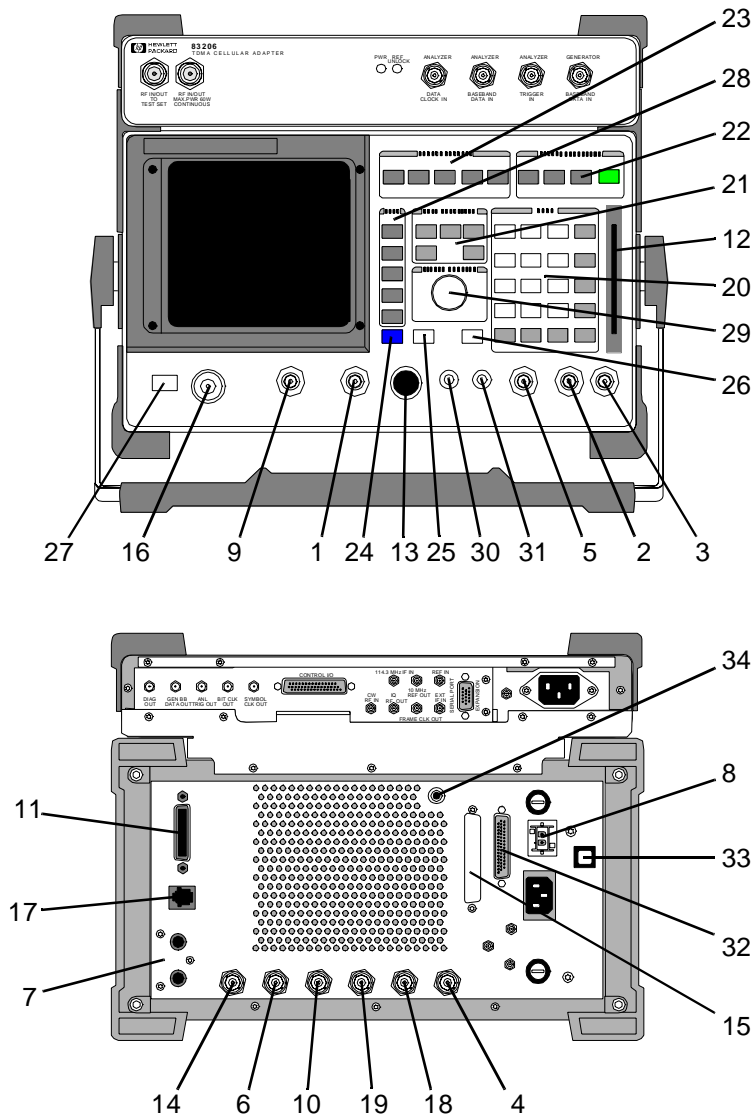

Figure 8 Test Set Connector, Keys, and Knobs
- HP 8920B, Option 800, RF Communications Test Set (see figure 8), which consists of the following:
The following paragraphs are included here for your convenience and briefly describe the connectors, keys, and knobs on the Test Set front and rear panels (see figure 8). Information on these items, in much greater detail, is included in the *HP 8920B RF Communications Test Set User's Guide*. For more detailed information on any of the items, refer to that manual.
The number shown in parentheses after each item in the following paragraphs is associated with the like-numbered pointer in figure 8.